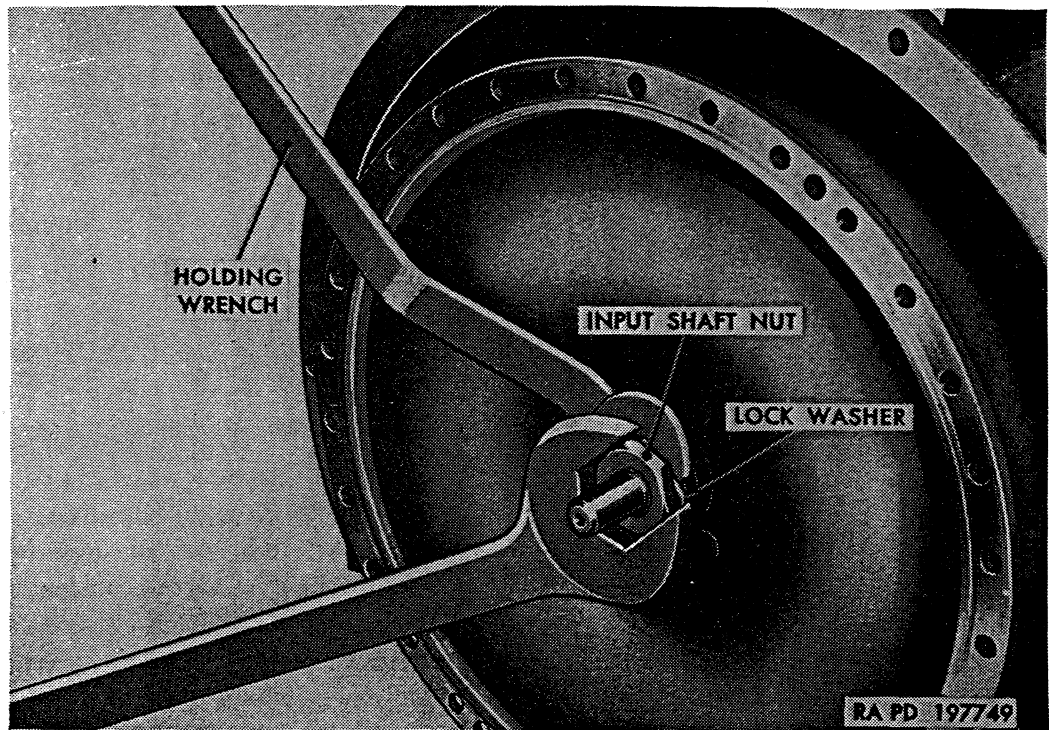

Figure 209. Using holding wrench B7950256 to hold fluid coupling.
(6) Place new lockwasher over transmission input shaft against driven torus member; then install  $\frac{7}{8}$ -16 input shaft nut.
(7) With torus holding wrench B7950256 (fig. 209), hold torus and tighten input shaft nut to 50 to 60 pound-feet torque.
(8) Bend lug of lockwasher against face of nut to hold nut tight; then install pilot bearing spacer on end of input shaft.